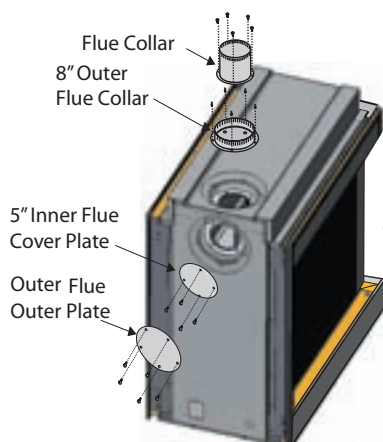

Figure 8. Flue cover and collar removal, *Top Vented* fireplace.
1. Remove the Rear flue cover and gasket (5" and 8") on the flue outlet, as shown in **Figure 8**.
2. Next, Remove the Top flue collar's (5" and 8") on the flue outlet, as shown in **Figure 8**.